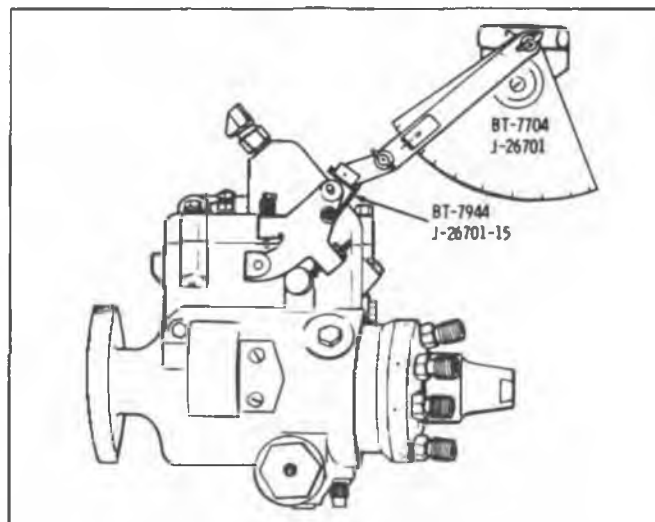

Fig. 2-15 Vacuum Regulator Valve Adjustment
- Rotate throttle lever to the wide open throttle position and set angle gage to zero degrees (Fig. 2-15).